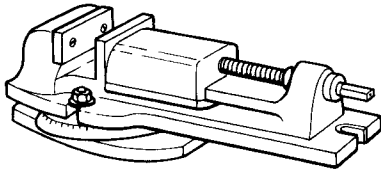

Fig. 4.239 The swivel vice. Wherever possible the cutting forces should be directed so that the fixed jaw acts as the restraint
**Work-holding devices.** The most common way of holding the work is by using the swivel vice (Fig. 4.239). Large components are clamped on to the machine table.